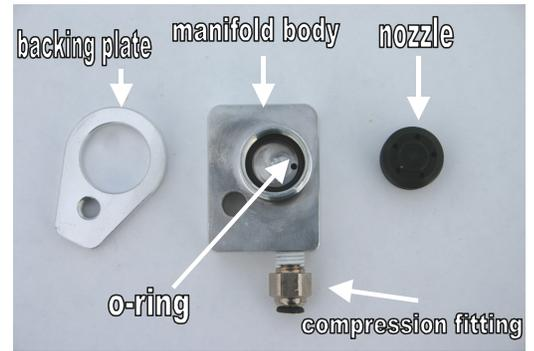

fig 4a
1. Locate a suitable place on the airfilter / airbox for each nitrous manifold. We have found the top half of the air box works best. Be sure to remove airbox before drilling holes to prevent shavings from entering engine. **Refer to fig 4a.** If a modified airbox is used, refer to **fig 4b**